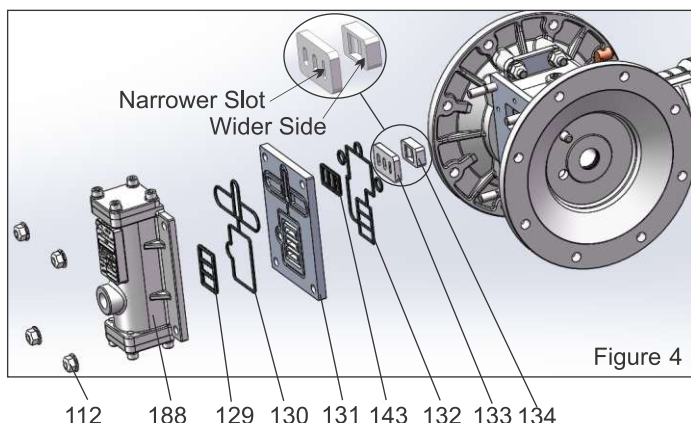

Figure 4
- Remove (112) nut and (188) major valve. See figure 4.
- Remove (129) gasket, (130) gasket, (131) adapter, (143) gasket, (132) gasket, (133) Pilot Valve plate, and (134) pilot valve insert. See figure 4.
- Pay attention to the orientation of (133) pilot valve plate and (134)pilot valve insert. Must ensure correct installation. See Figure 4 & Figure 8.